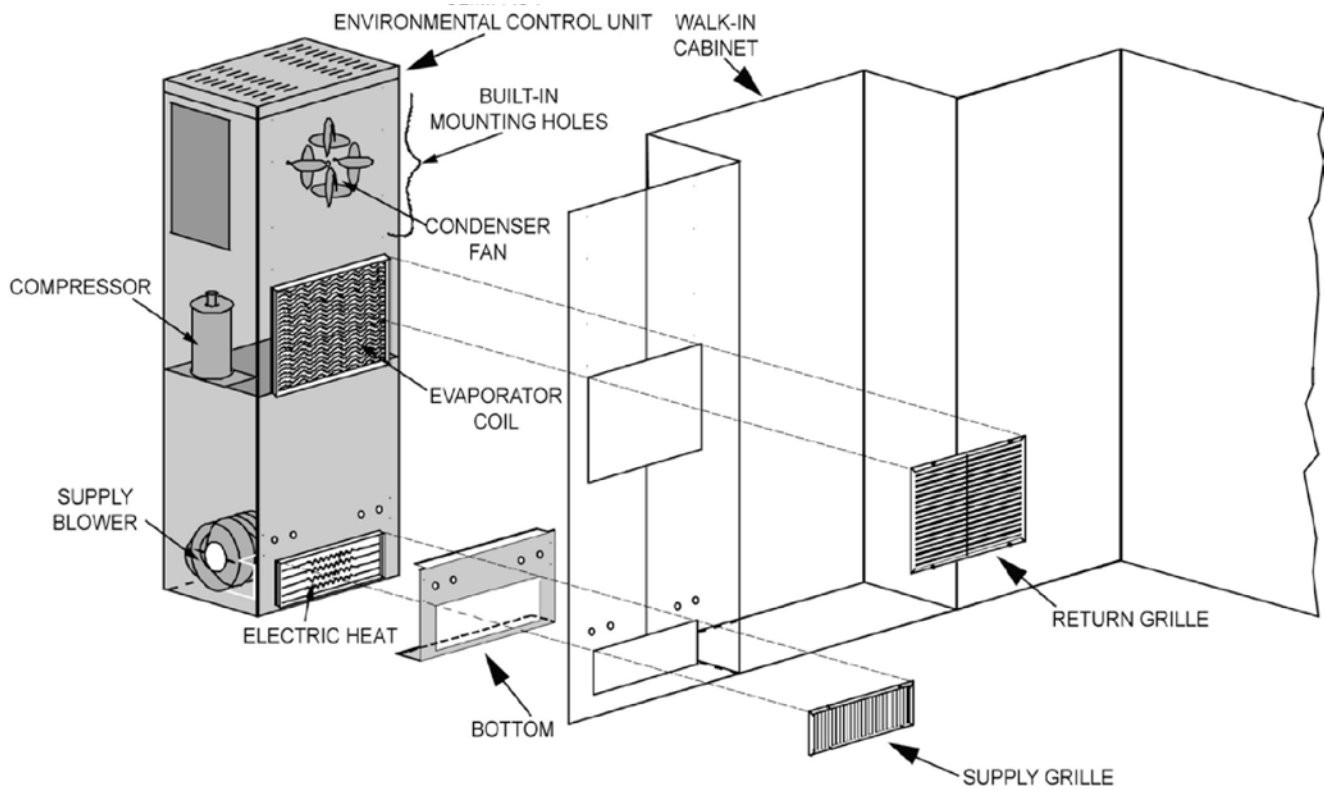

Figure 4. Wall Mounting Detail
3. Refer to Figure 4. Attach the bottom support bracket to the wall using appropriate hardware.
1. Mount the sub-base on a level plane. Use a line and surface level. Connect the thermostat wire as shown in Figure 4.
3. Unit shut down is available from a field provided alarm device; i.e., smoke alarm, fire stat. Install a normally closed device between red wire and the "R" terminal on the thermostat. This will disable the 24V control voltage. See Figure 4.